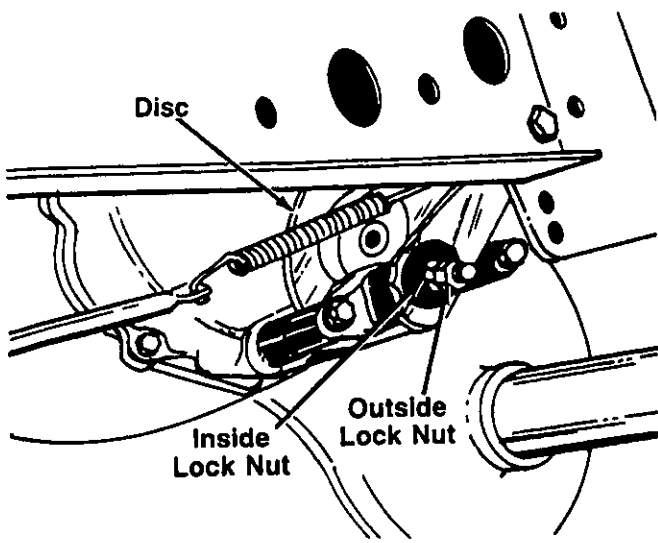

FIGURE 14.
1. Loosen the outside lock nut. See figure 14.